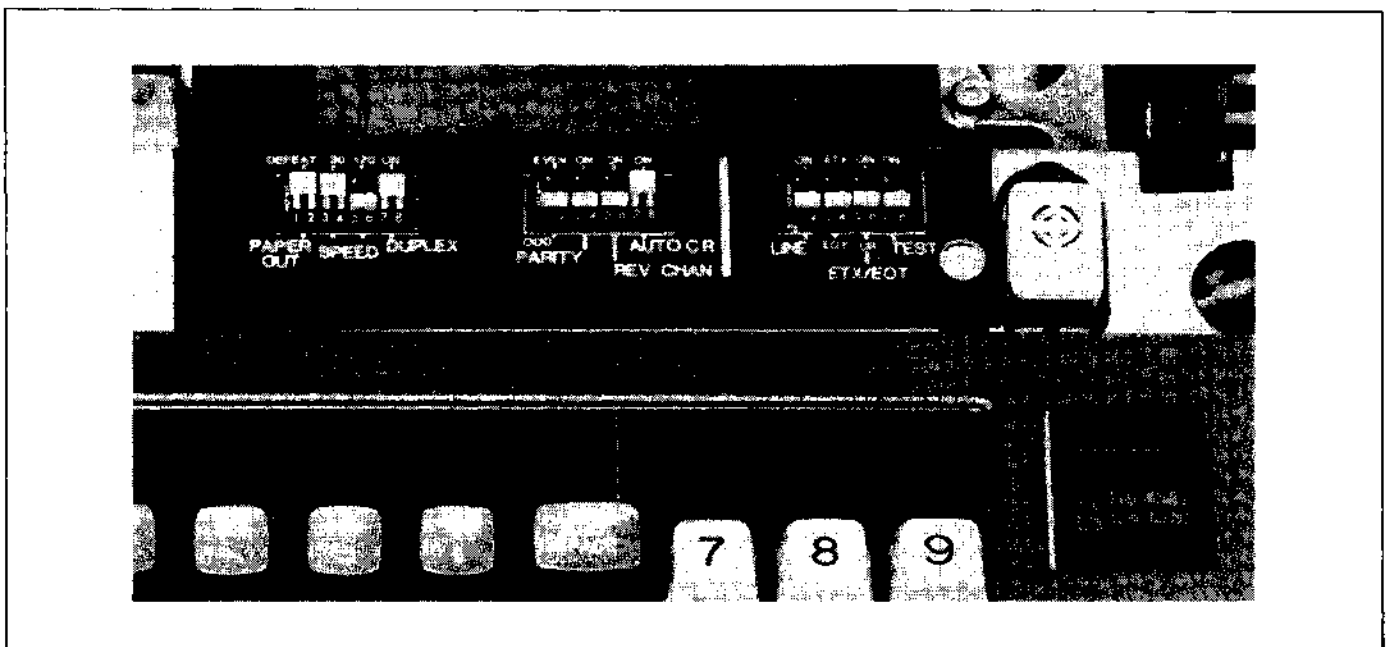

Figure 2-3. Control Panel
2.2.3 Control Panel (shown in Figure 2-3)
The control panel indicators are located above the numeric pad on the keyboard (Figure 2-3). The control panel indicators are separated into two sections; Error and Mode.